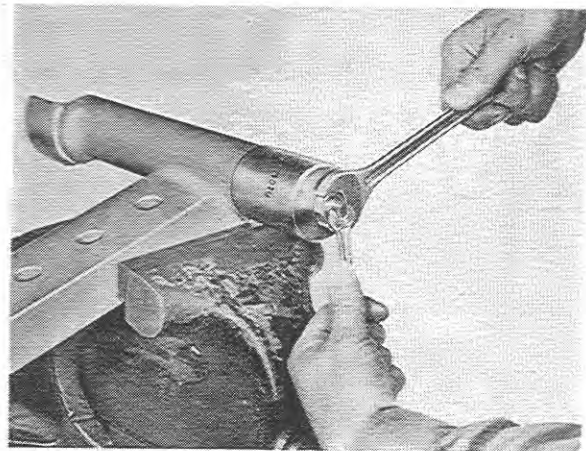

Fig. 2
- 2) Fit to this assembly, the cover of MOTU (Fig. 2) and remove the bush.